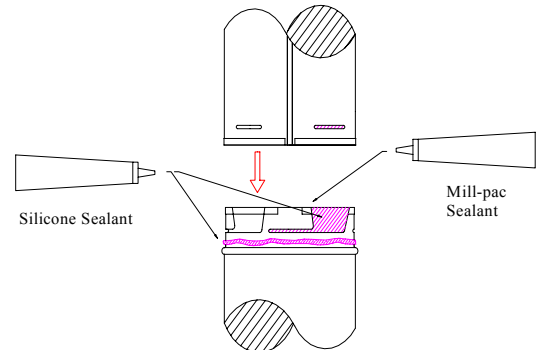

Fig. 14– Applying Sealant
2. To properly assemble the Simpson pipe and fittings on a direct vent system, Mill-pac brand sealant must be placed between the inner collars of the pipe (see figure 14). Slip the pipe together and twist to lock. After the pipe is assembled. Carefully wrap the outer seam with aluminum tape (or seal with silicone). An airtight seal must be created.